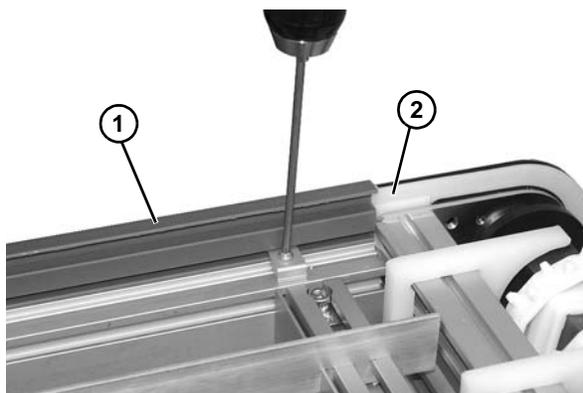

Figure 45
1. Install outer top wear strips (Figure 45, item 1) so that end of wear strip is flush with tail assembly (Figure 45, item 1).